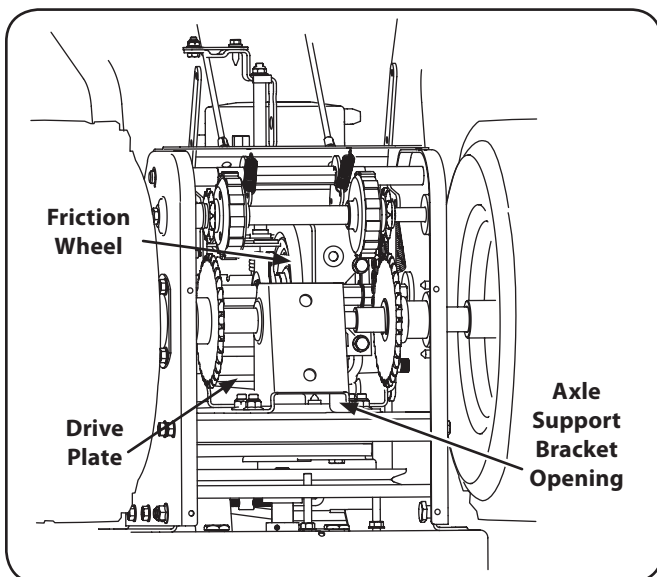

Figure 6-7
2. Locate the opening between the axle support bracket and the front frame support (See Figure 6-7). Looking through this opening, with the drive control released, there must be clearance between the friction wheel and the drive plate in all positions of the shift lever.
3. With the drive control engaged, the friction wheel must contact the drive plate. Refer to Figure 6-7.